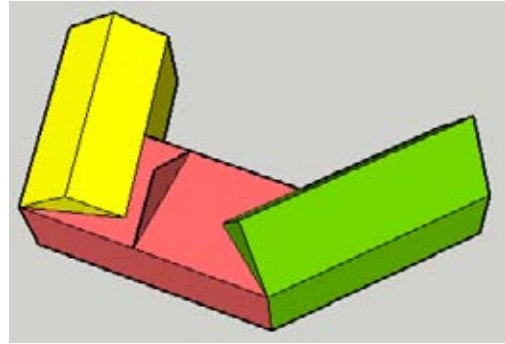

Figure 5-65
2. Pull the green and yellow roof faces back, along their side walls (Figure 5-65).